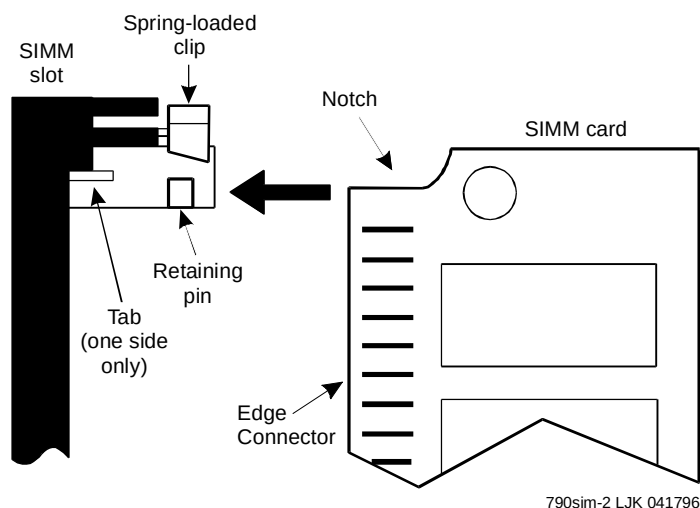

Figure 11-3. Align the SIMM with the SIMM Socket
3. Locate the Notch cutout area on one corner of the SIMM. See Figure 11-3. See WARNING.
(See Figure 11-3).